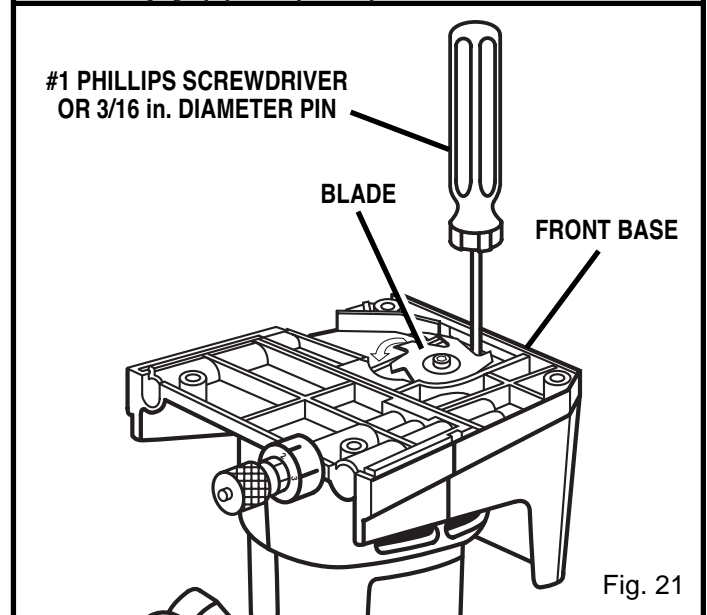

Fig. 21
- Place a #1 Phillips screwdriver or 3/16 in. diameter pin between the blade and front base. See Figure 21.